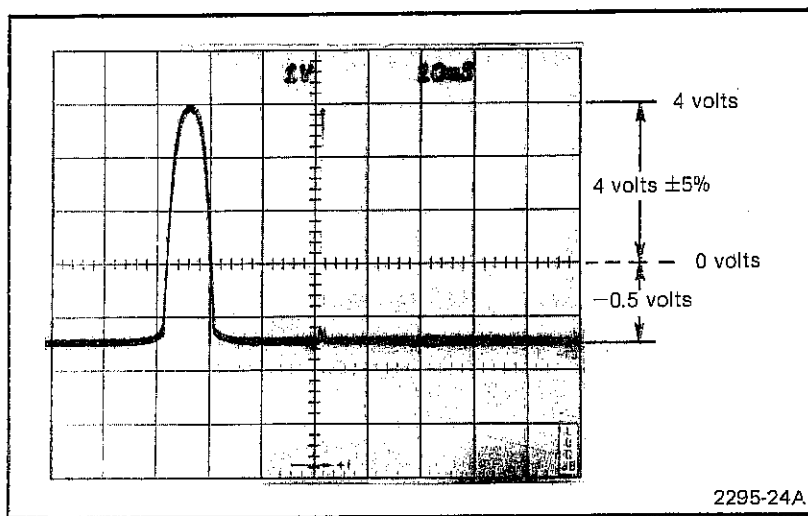

Fig. 4-16. Video Output Test Waveshape.
c. Check the amplitude of the video output signal using the test oscilloscope. Note the dc zero volt level. Video amplitude should equal 4.0 volts $\pm 0.2\text{ volt}$ as measured from the zero voltage reference level. See Fig. 4-16.